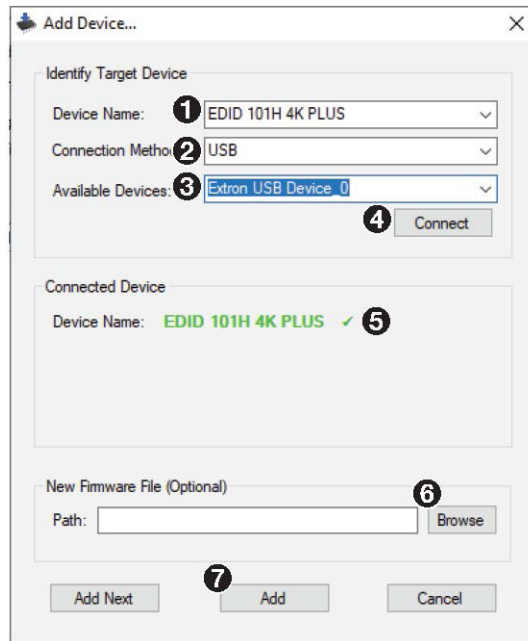

Figure 16. Add Device Dialog Box
The **PCS** dialog box opens with the **Add Device...** dialog box in front of it (see figure 16).
5. From the **Device Name:** drop-down list, select **EDID 101H 4K PLUS** (see figure 16, 1 on the previous page).
6. From the **Connection Method:** drop-down list, select **USB** (2).
7. From the **Available Devices:** drop-down list, select **Extron USB Device_0** (3).